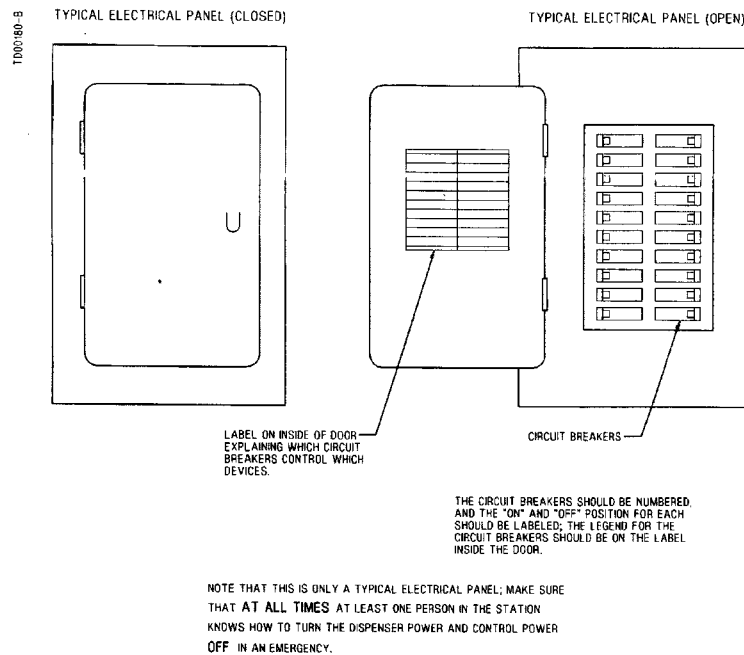

Figure 4-4 Typical Electrical Panel and Circuit Breakers. *The circuit breaker controls power to the dispenser junction box.*
3. Turn the dispenser control power (circuit breaker) off, then on. See Figure 4-4.